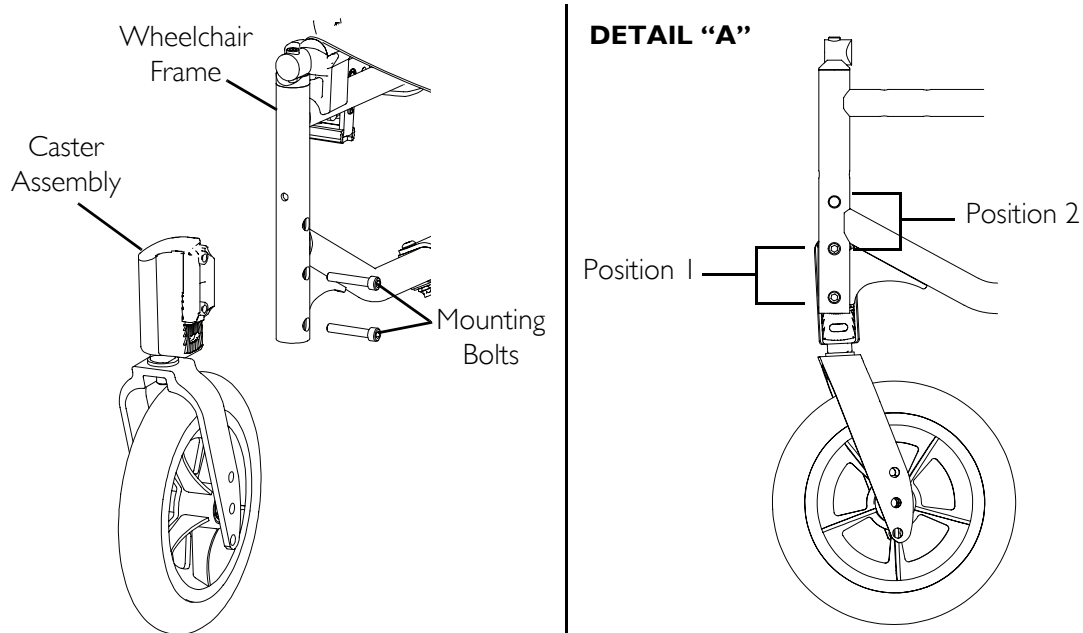

FIGURE 9.11 Adjusting Caster Assembly Position
NOTE: For this procedure, refer to FIGURE 9.11.
2. Move the caster assembly to one of two positions. Refer to Detail “A” of FIGURE 9.11.